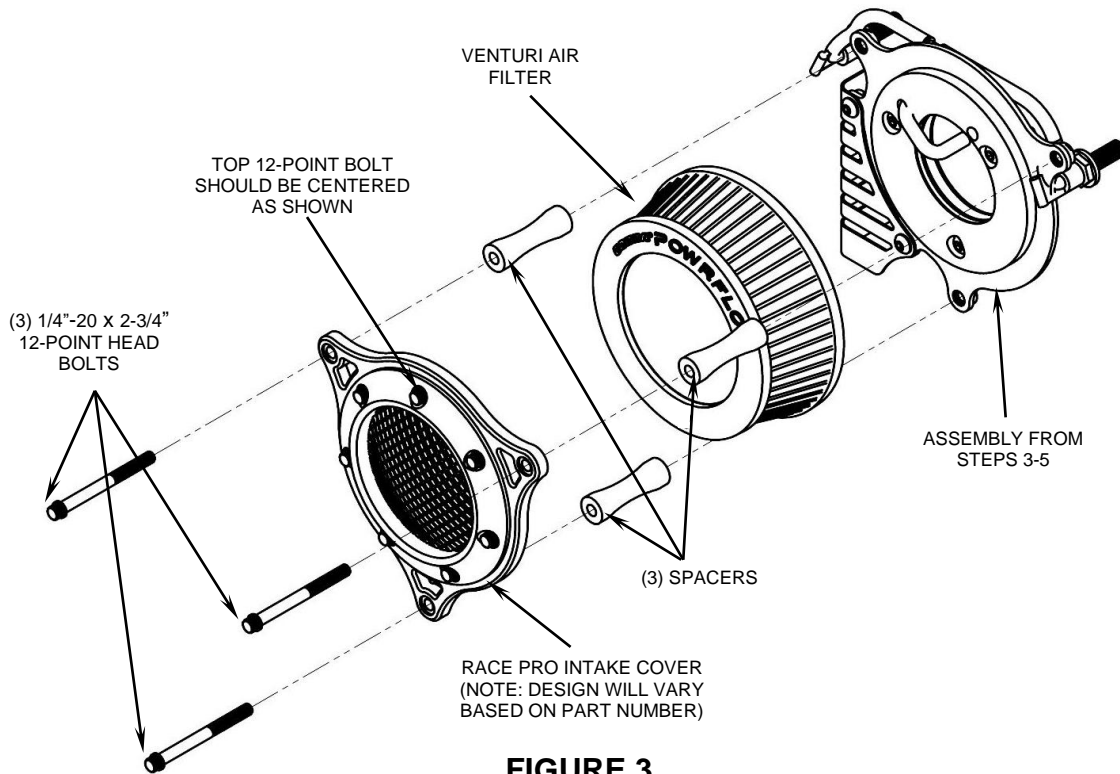

FIGURE 3
10. Place the RACE PRO intake cover over the air filter so that there is a 12-point bolt centered between the top two mounting holes. See **FIGURE 3**.
11. Insert the 2-3/4" long 12-point bolts through the 3 outer holes in the intake cover and through the spacers to the base mounting plate threaded holes. See **FIGURE 3**. Snug the (3) bolts evenly until the intake cover tightens down onto the spacers. Then tighten the bolts securely.